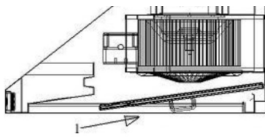

Figure 1
- Keep the tilted angle and move the baffle filter towards the back of the range hood until it reaches the backplate. (*Figure 1*)